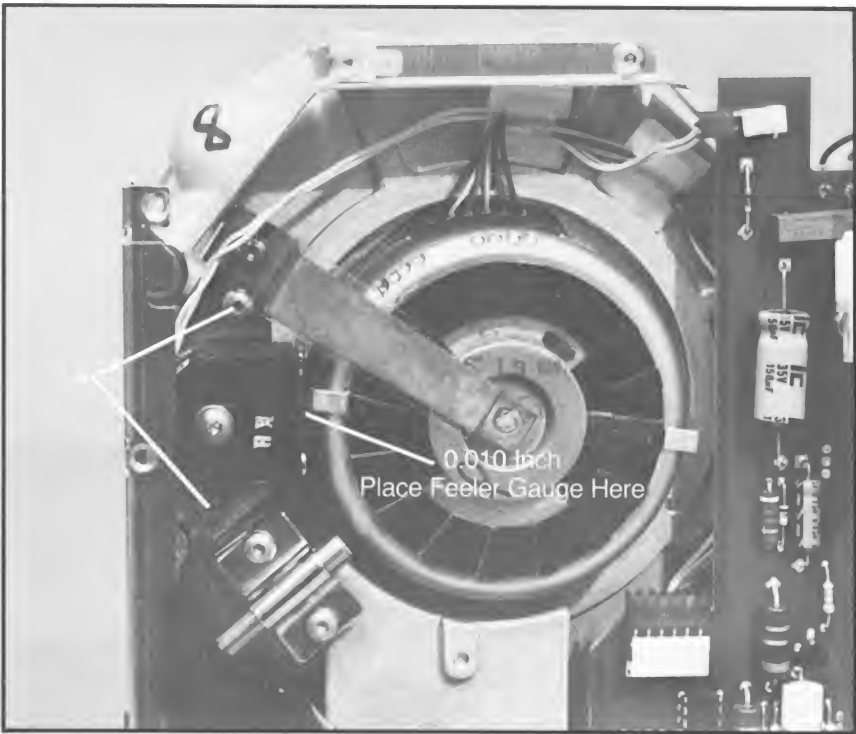

Figure 2-4. Brake/Index Assembly
To adjust the brake on the Winchester drive, first disconnect the disc memory from any AC power source. Refer to Chapter 2 of Section II (Assembly Access) and remove the top cover, Winchester controller PCA, Winchester drive assembly and drive electronics PCA. Place the drive assembly on a clean dry surface bottom side up. Check the clearance between the drive hub and the brake pad and adjust if necessary for a clearance of 0.010 inch. To do this, loosen the two screws (A) shown in Figure 2-4, place the 0.010 inch feeler gauge between the hub and the brake pad and move the brake/index/ground assembly toward the hub until snug. Tighten the screws previously loosened and proceed to the index sensor adjustment.